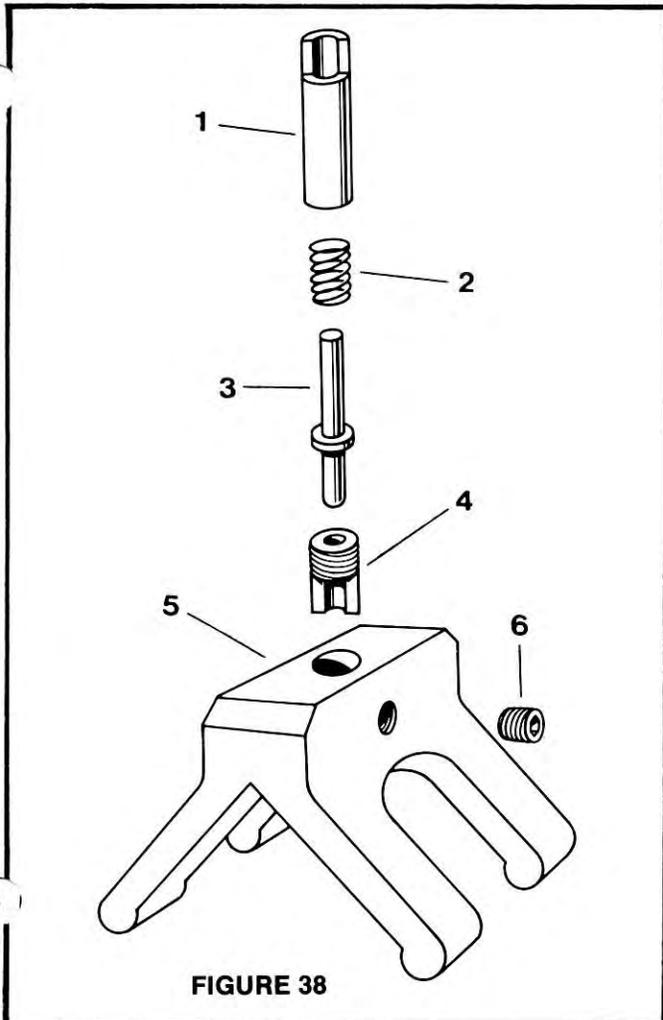

FIGURE 38
3. Lock the probe slide in position by tightening the allen screw on the front of the gauge. (See Figure 38)